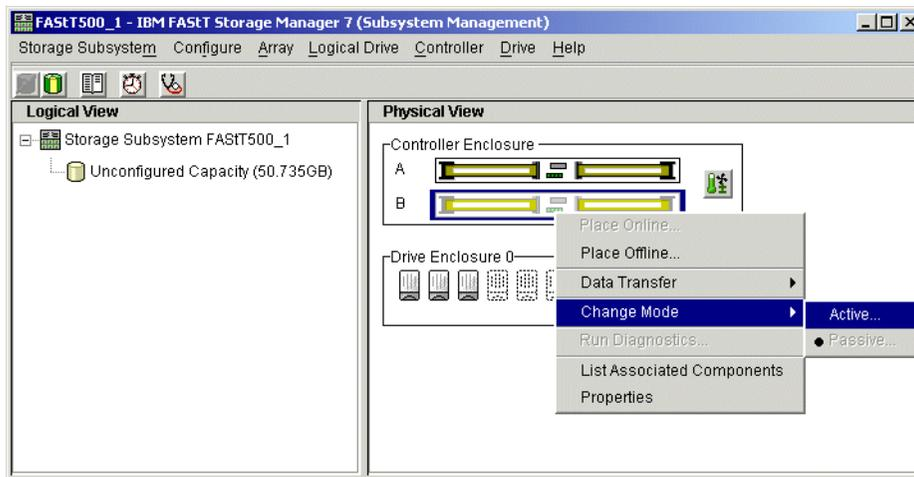

Figure 5-17 Change Mode
1. Right-click the graphic for **Controller B**, and select **Change Mode->Active** (see Figure 5-17):